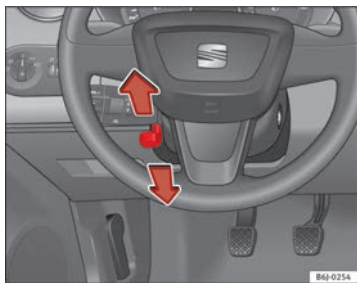

Fig. 96 Steering column height adjustment
- Push the lever under the steering column ⇒ fig. 96 down ⇒ ⚠.
- Adjust the steering wheel until the correct position is set ⇒ fig. 96.
- Adjust the driver seat or steering wheel so that there is a distance of at least 25 cm between the steering wheel and your chest ⇒ fig. 96. If you fail to observe the minimum distance, the airbag will not protect you. Risk of fatal injury.